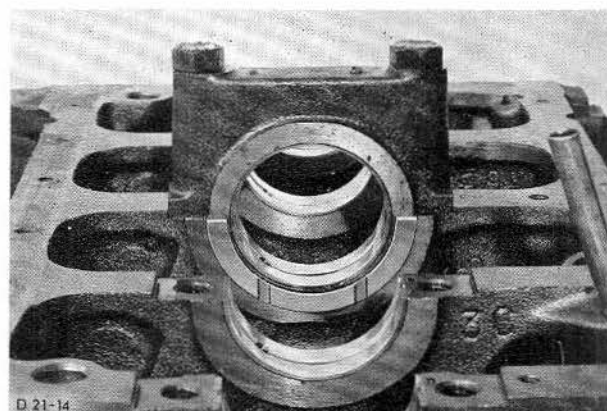

Fig. 34. Half thrust washer.
31. Remove main bearing caps together with bearing shells. When removing centre main bearing cap, note position of two half thrust washers and mark them accordingly, Fig. 34.